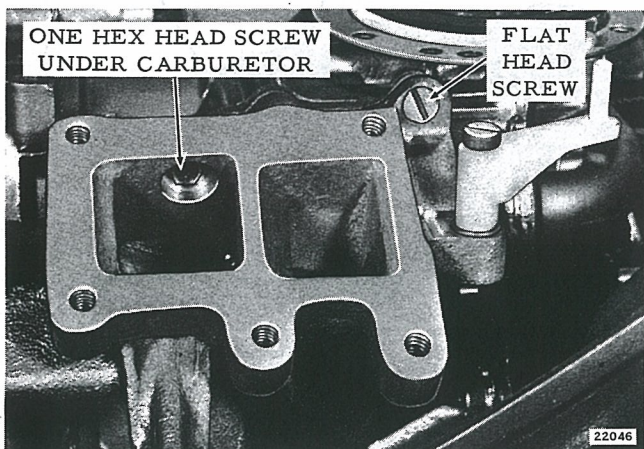

Figure 3-5. Manifold Attaching Screws
e. Remove nine hex and one flat head screws attaching intake manifold and leaf plate to crankcase. Remove manifold and leaf plate from crankcase. See Figure 3-5.